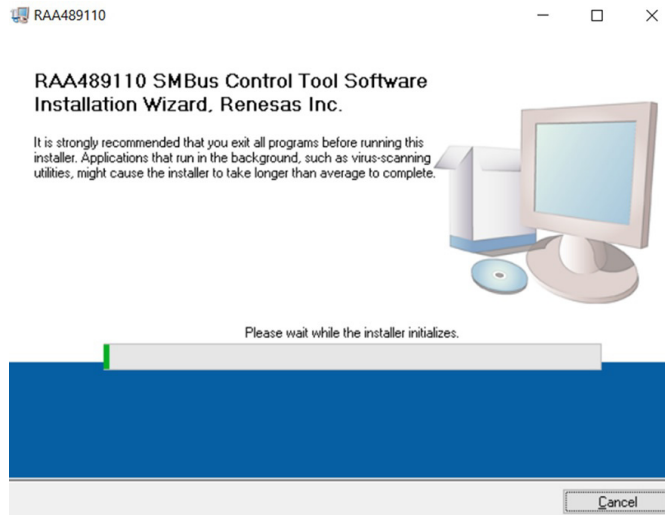

Figure 3. RAA489110 Control Software Installer
- a. The window shown in Figure 3 appears. Click **Next**.